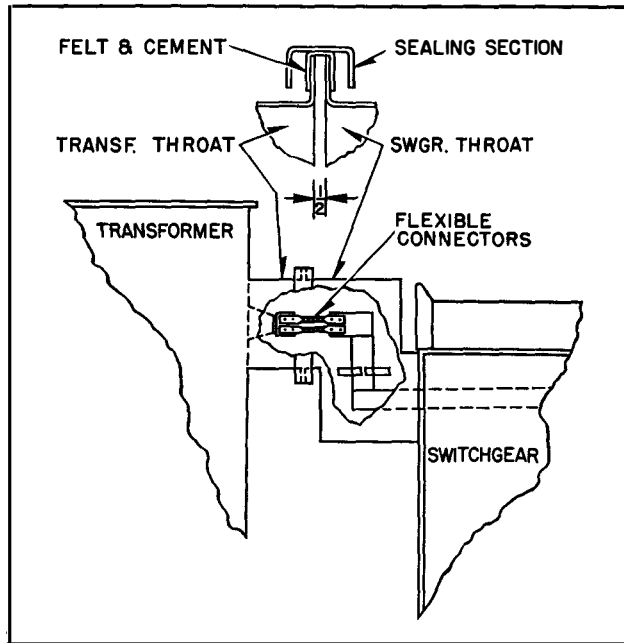

FIG. 21. Bus Run Throat Connection to Transformer
**Bus Run Type.** Figure 21 shows the construction details of an outdoor bus run type of throat connection with the bus run extending from the left hand of the assembled switchgear. A variation of this type would have the bus run emerging through the roof of the switchgear assembly rather than the end unit. For this type of installation the switchgear group adjacent to the transformer and the transformer should be installed first in accordance with the base plan. The flanges of the switchgear bus run and the transformer throat should normally then be in alignment with one another. Apply cement to both flanges on the outside surfaces and cement felt in place in accordance with details shown in Figure 21. The felt is used to seal against entrance of dust and to prevent possible vibration of the sealing section due to resonance produced by the transformer. Install the sealing section by sliding the frame down from the top and secure in place with the screws supplied on the bottom section.